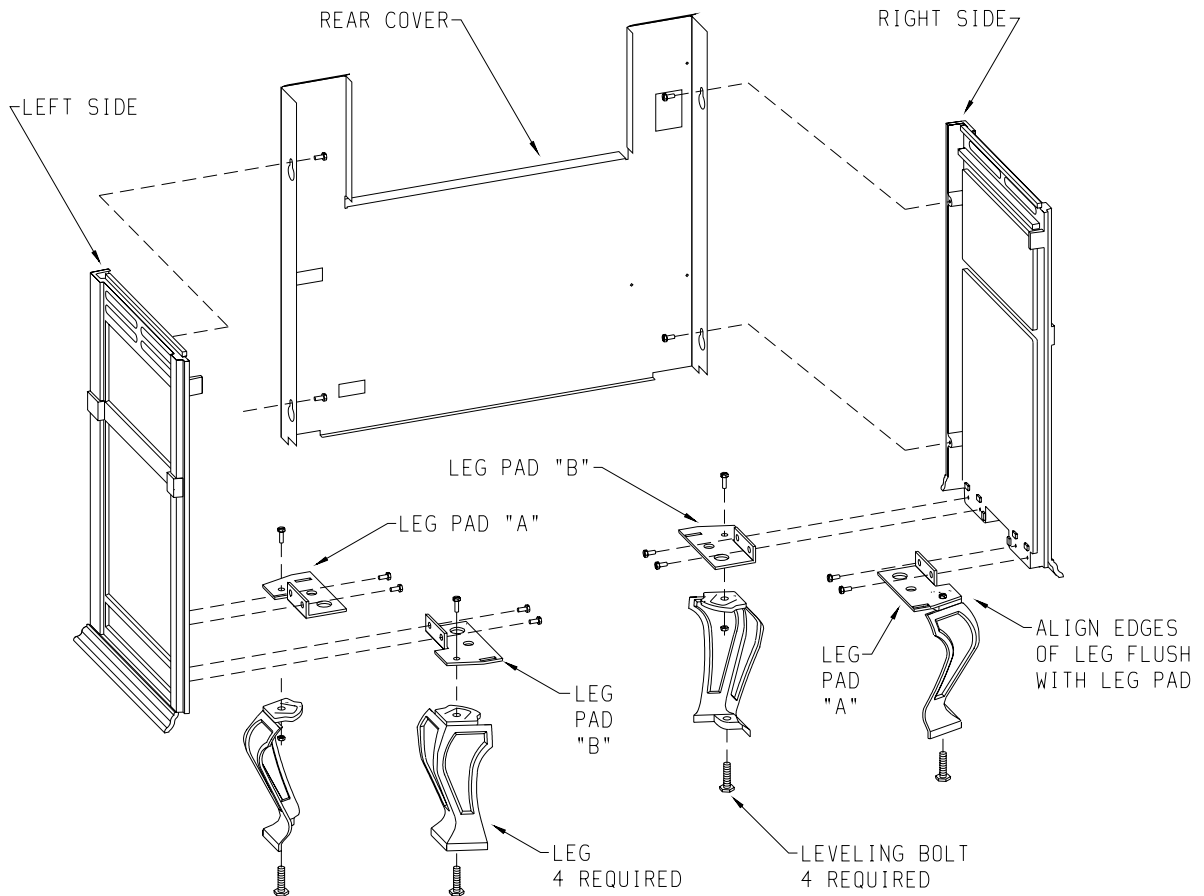
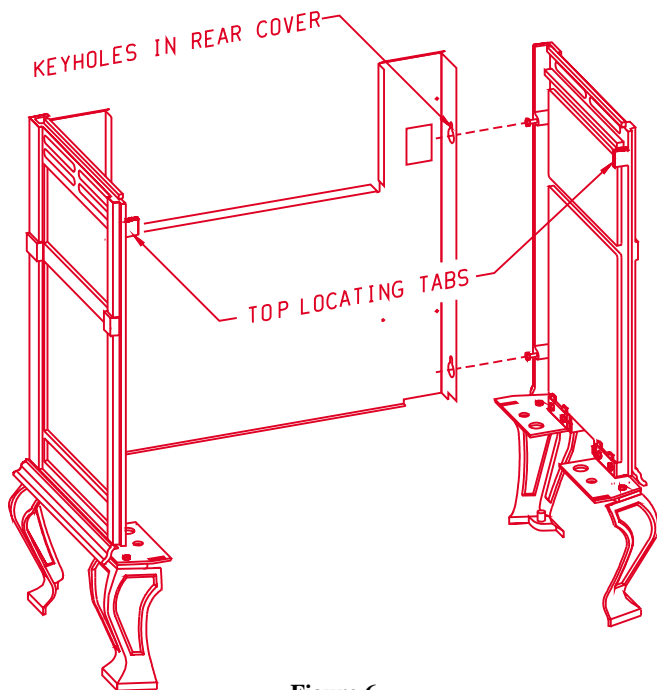

Figure 5
Figure 6
Assembly of Cast Iron (Outer Casing) Stove Casting (Figures 5, 6, 7, 8 and 9)
- Attaching legs to the sides (Figure 5).
- Attaching rear cover to sides (Figure 6).
- Refer to Figure 5, the leg pads will have the letter "A" and "B" stamped into the metal. Place leg pad "A" and leg pad "B" at the bottom of each casing side. Leg pad "A" attaches to the front of the casing side, right and to the rear of the casing side, left. Leg pad "B" attaches to the rear of the casing side, right and to the front of the casing side, left. Position the 3/4" flange on the leg pad against the (2) locator dimples on the casing side. The 3/4" flange must be facing upward, toward the top louver openings on the casing side. Attach the two **rear** leg pads to the casing sides with (2) 3/8" bolts. Attach but do not completely tighten the two **front** leg pads to the casing sides with (2) 3/8" bolts. **Attention:** The front leg pads can be adjusted to provide a snug fit between the casing front and the casing sides.
- Attach (4) leveling bolts to the bottom of the (4) legs.
- Align the 3/8" hole at the top of the leg with the 3/8" hole in the leg pad. **Attention:** For proper positioning of the leg to the leg pad the (2) 1-1/2" top edges of the leg must be placed flush and parallel to the (2) edges on the leg pad. Attach leg to leg pad by inserting (1) 1" bolt through the leg pad and into the leg, secure bolt with 1/4" nut.
- Insert (2) 3/8" bolts into the (2) holes on the edges of the casing sides. The bolts should only be threaded half-way into the holes in order to allow for clearance when the casing back is attached to the casing sides.
- Refer to Figure 6, the rear cover has (4) keyholes for attachment to the casing sides. Stand the casing sides on the floor with the (2) bolts attached half-way into the edges of the rear cover positioned at the rear. The large diameter holes in the keyholes of the rear cover will be toward the floor. Working with one casing side at a time, place the large diameter holes in the keyholes over and behind both of the bolts at the same time. Push downward on the rear cover to lock the keyholes into position behind the bolts. Finish tightening both bolts to secure rear cover to casing side. Repeat this procedure to secure rear cover to the second casing side.